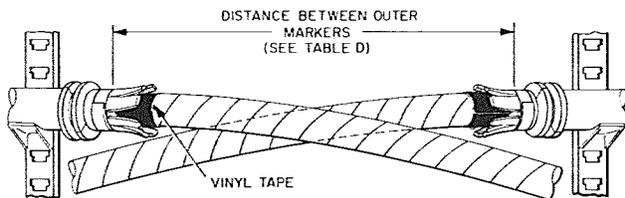

Fig. 14—Vinyl Tape Collars Placed
3.10 Make a collar over the cable core with two layers of vinyl tape for each cable end; place the first layer with adhesive side out lapped about 1/4 inch, then one layer with adhesive side in. Slide the collars back under tabs and recheck distance between outer markers (Fig. 14). Remove outer markers.